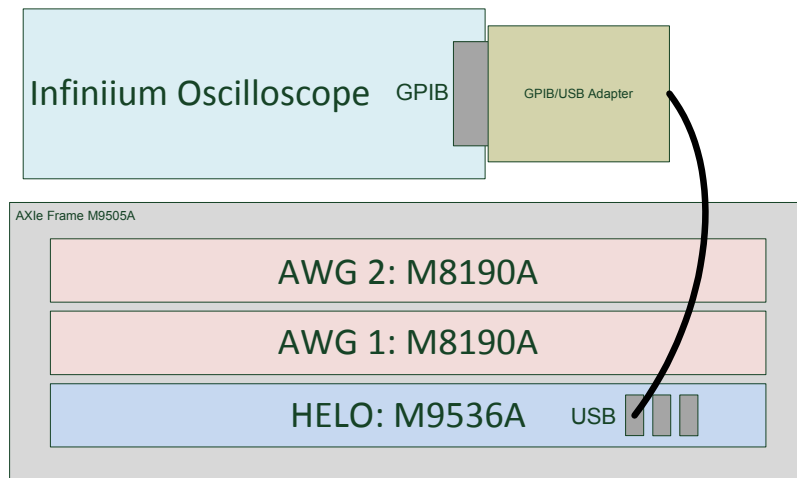

Figure 5 Hardware setup
- 1 Put two AWGs (M8190A) and an Embedded Controller in the 5 slot frame AXIe chassis as shown in the Figure 5 on page 26.